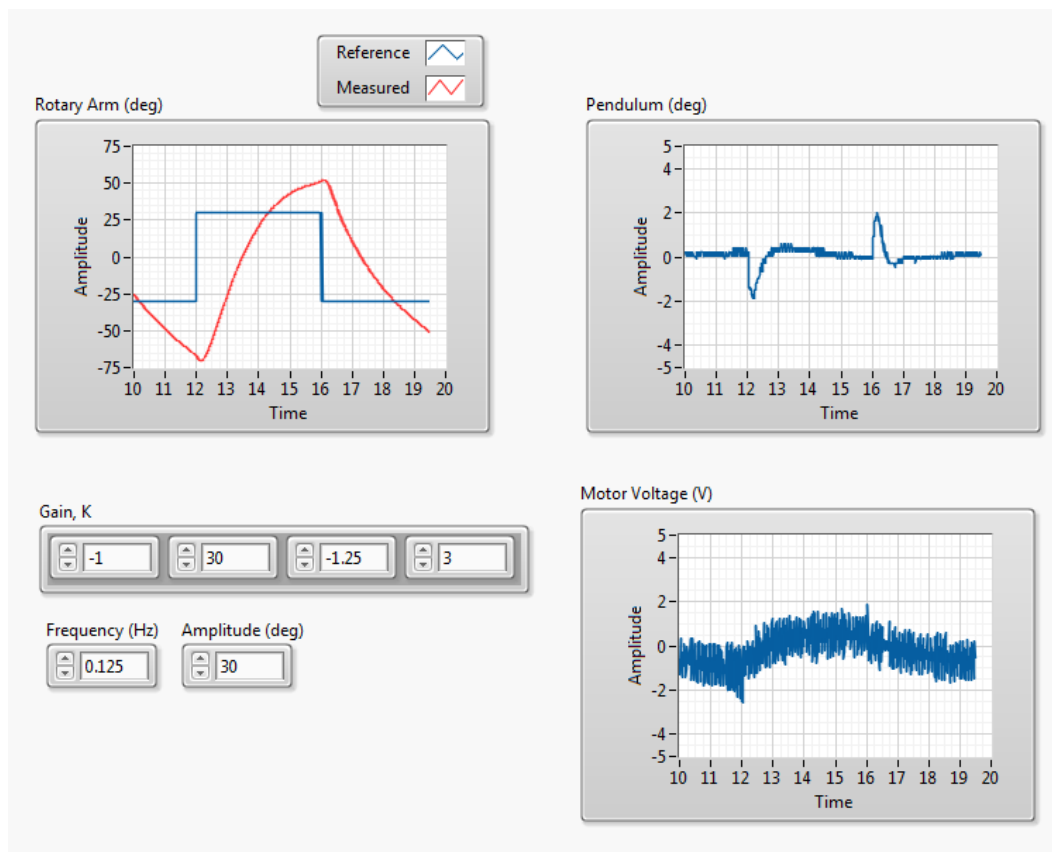

Figure 2.5: QUBE-Servo 2 rotary pendulum response
- Once the pendulum is balanced, set the Amplitude (deg) control to 30 to make the arm angle go between  $\pm 30^\circ$ . The scopes should read something similar to Figure 2.5. Attach your response of the rotary arm, pendulum, and controller voltage.